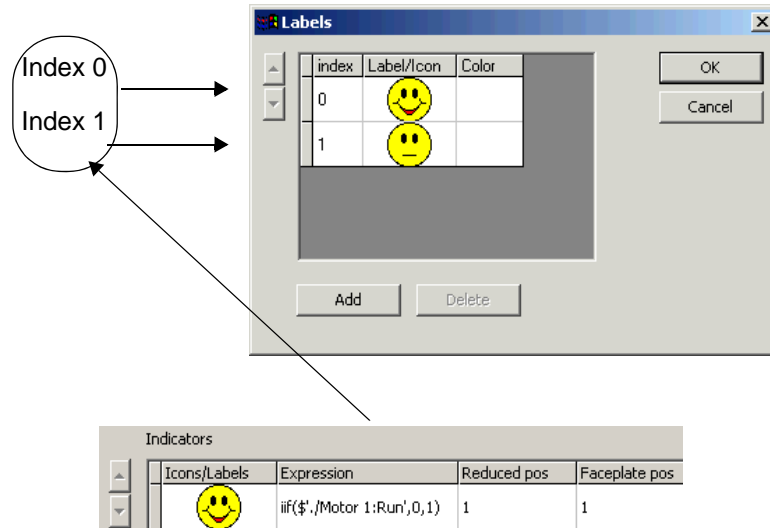

Figure 17. Configuration of Icons/Labels
1. Click **Icons/Labels** column. **Labels** dialog box appears as shown in Figure 17.